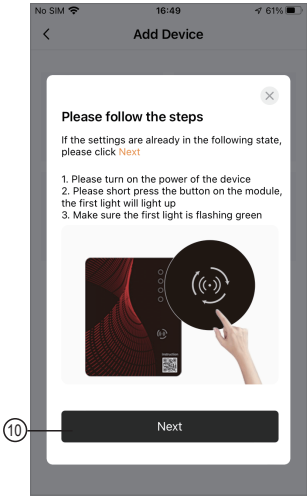
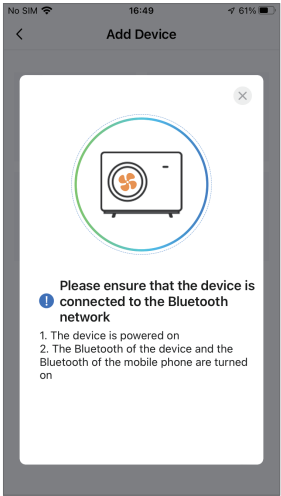

Fig.6 WIFI Module On interface
Fig.8 Searching device interface
1. Follow the instructions on the page (Fig.6), press button on module and hold for 1s till two lights on, then AP connection is activated,, click ⑩ to turn the page;
2. Click ⑪ to enter the WIFI password for the current connection, click ⑫ to confirm;
3. The APP automatically searches for WIFI module(Fig 8);